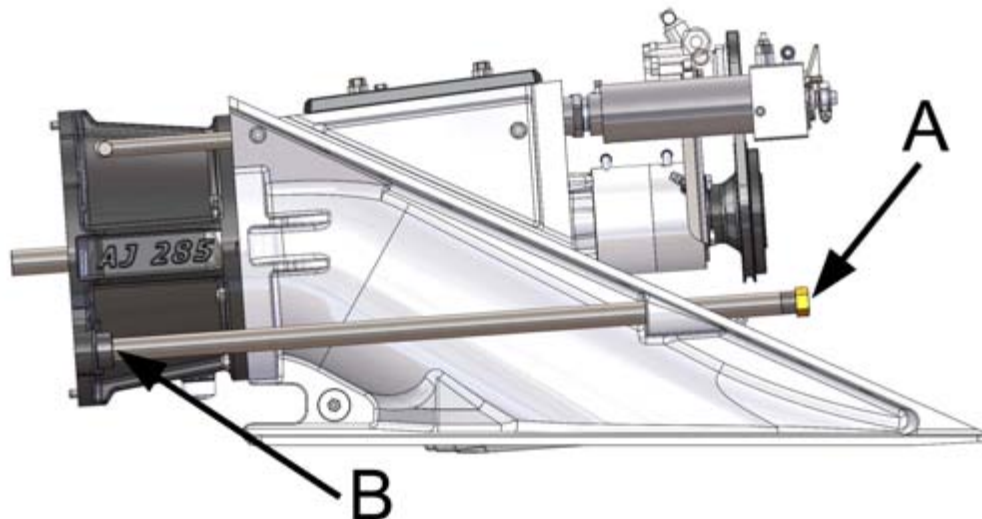

Figure 48. Raw water line
1. Open the connection to the raw water line at the pipe end on the engine room side (figure 48, point A).
2. Screw the raw water pipe to disconnect it from the rear end (figure 48, point B). However, you can leave it attached to the frame.